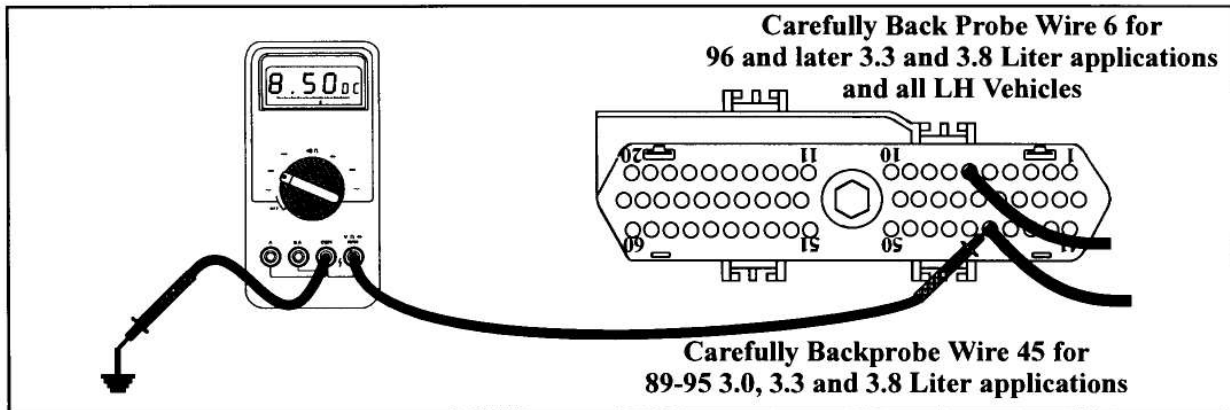
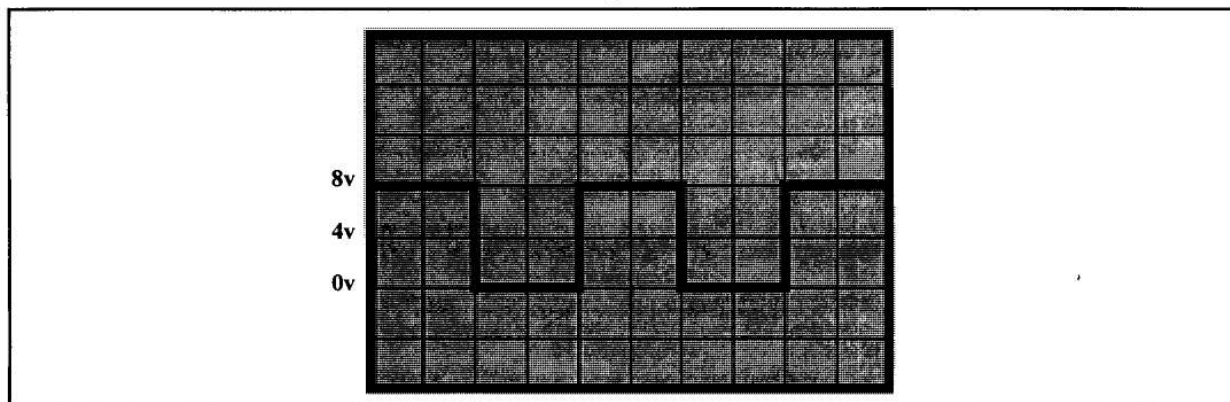

Figure 21
Figure 22
- With a DVOM set to DC volts, carefully back probe wire 45 at the TCM with the positive meter lead and place the negative meter lead to a good known ground (See Figure 21). With the key on and engine off, an 8 to 9 volt pulse should be seen as the crank shaft is turned by hand. If a voltage pulse is observed, the TCM needs to be replaced. If no volts are observed, go to the next step. **Note:** A square wave form is shown in Figure 22 for those that have oscilloscope testing capabilities (Test is performed with vehicle running).
- With a DVOM set to DC volts, using the positive meter lead carefully back probe wire 45 at the TCM for **89-95 3.3** and **3.8L** applications. For all LH vehicles and 96 and later 3.3 and 3.8L applications, back probe wire 6 at the TCM. Place the negative meter lead to a good known ground (See Figure 21). With the key on and engine off, approximately an 5 to 9 volt pulse should be seen as the crank shaft is turned by hand. If a voltage pulse is observed, the TCM needs to be replaced. If no volts are observed, go to the next step.